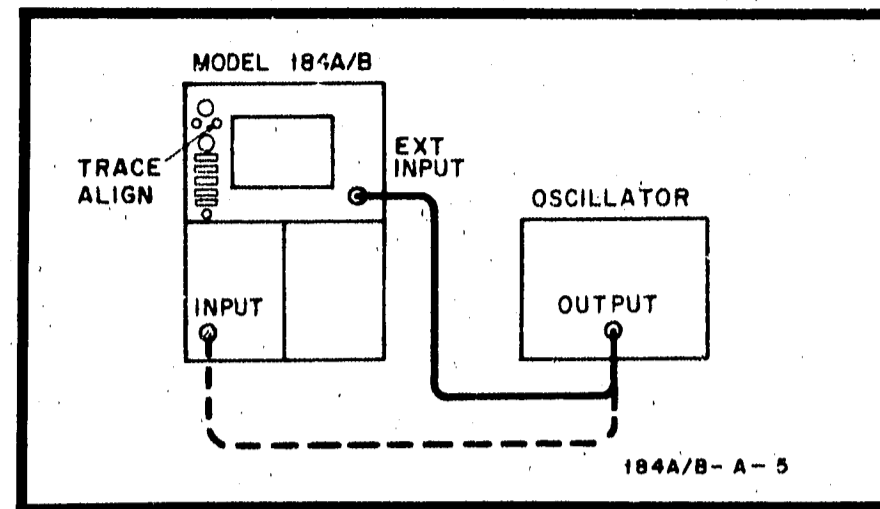

Figure 5-7. Trace Alignment Adjustment
- b. Connect oscillator 400-Hz 10V output to EXT INPUT (figure 5-7).
- g. Connect oscillator 400-Hz 10V output to input of vertical amplifier plug-in (figure 5-7).